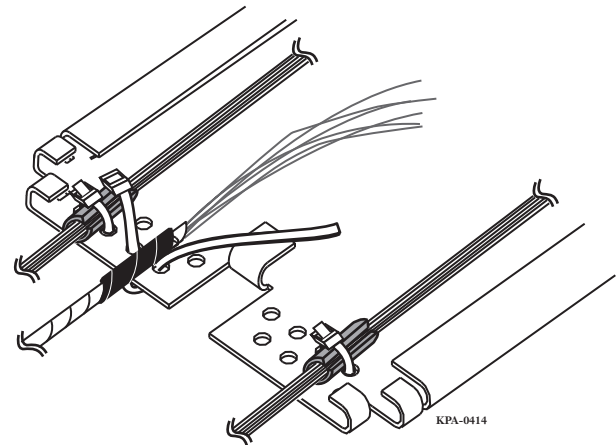

Figure 35
- Step 4:** Place vinyl tape at the end of the spiral wrap (Figure 35).